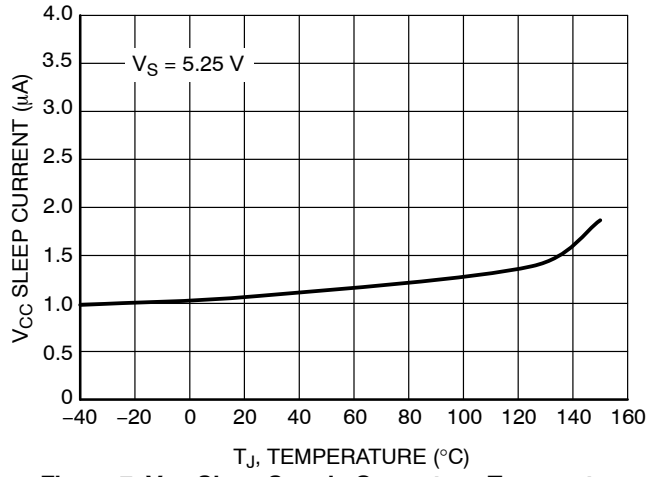

Figure 7.  $V_{CC}$  Sleep Supply Current vs. Temperature
- For temperatures above  $85^{\circ}\text{C}$ , refer to Figure 7.
6. For temperatures above  $85^{\circ}\text{C}$ , refer to Figure 7.